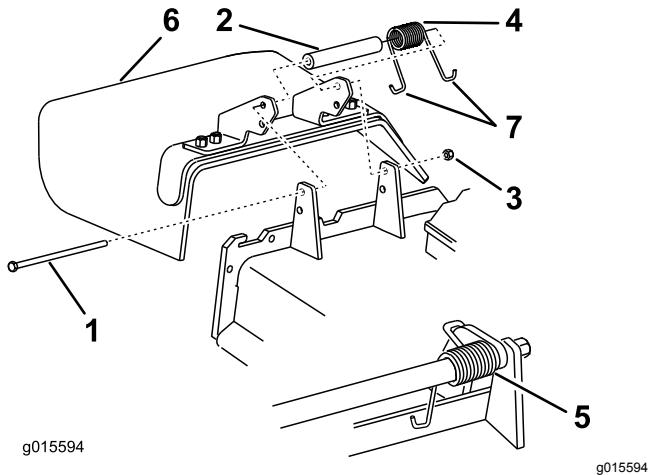

Figure 105
1. Remove the locknut, bolt, spring, and spacer holding the deflector to the pivot brackets (Figure 105).
2. Remove the damaged or worn grass deflector (Figure 105).
Note: Make sure that 1 J-hook end of the spring is installed behind the deck edge before installing the bolt as shown in Figure 105.
6. Place 1 J-hook end of the spring around the grass deflector (Figure 105).